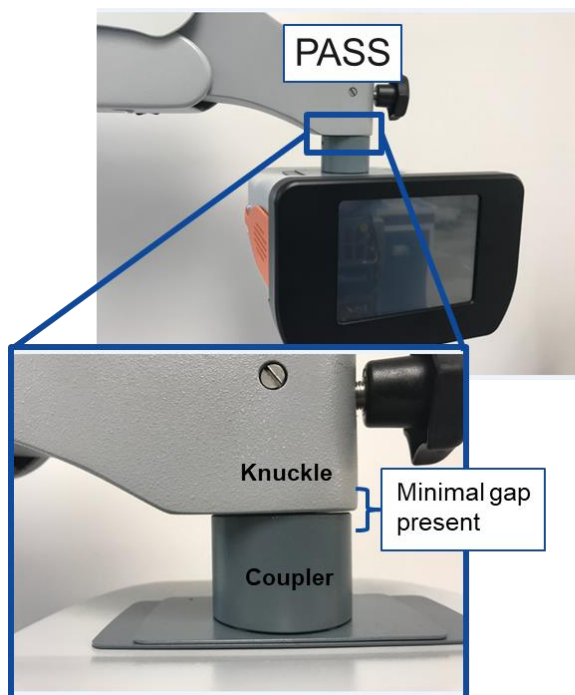

Figure 2: Pass Image
- PASS: Minimal gap between the coupler and knuckle is present. Note that it is acceptable to see minimal light between the knuckle and coupler as shown in the “PASS” image in Figure 2. The gap observed between the coupler and knuckle should be less than the thickness of a credit card (approximately 1/32nd of an inch or 0.76mm).